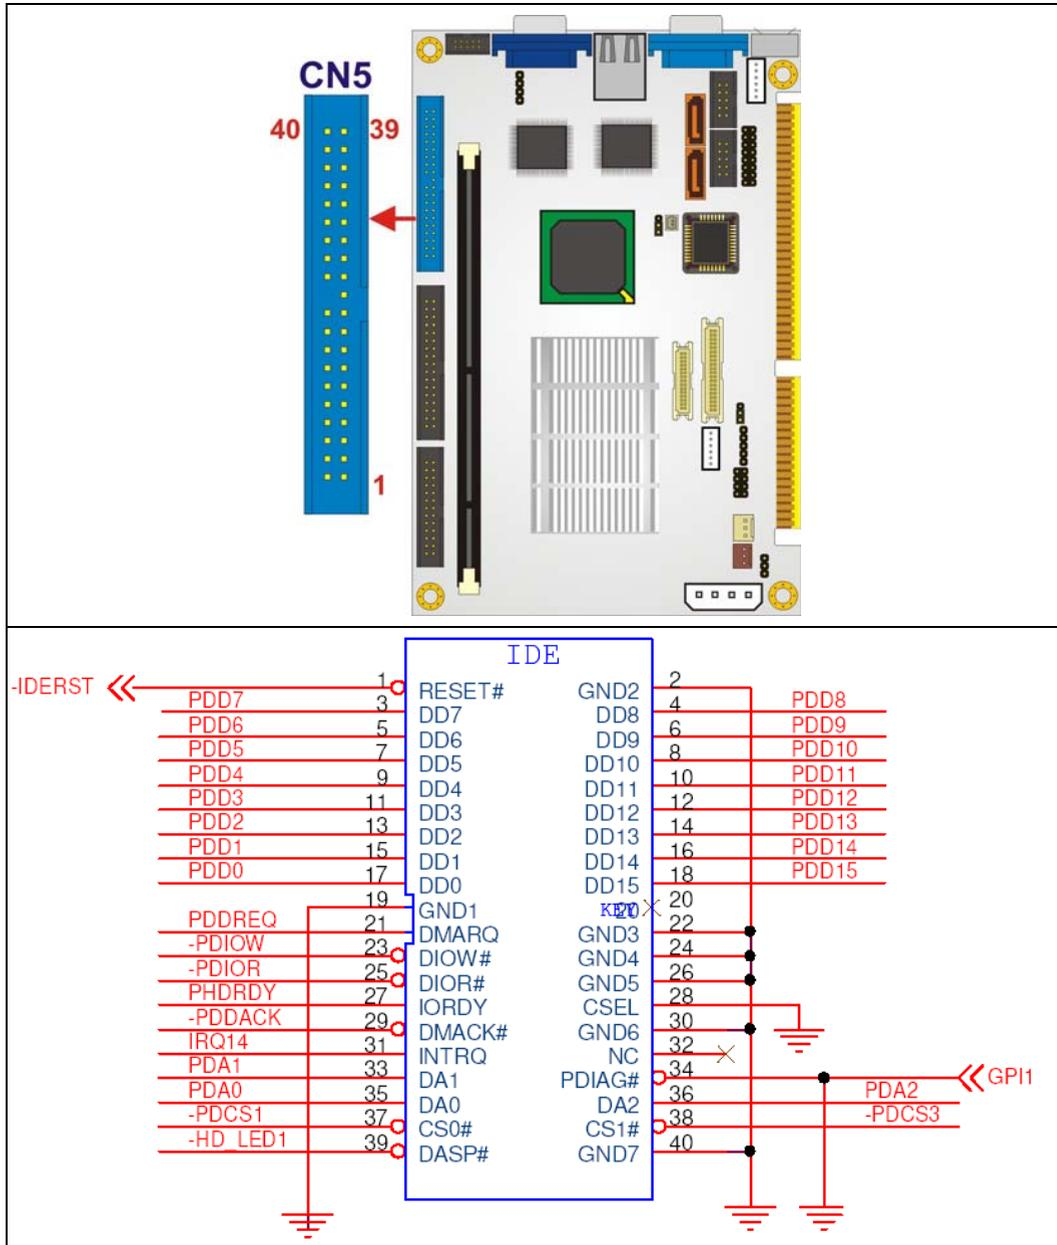

Figure 4-14: IDE Device Connector Locations
- CN Location:** See Figure 4-14